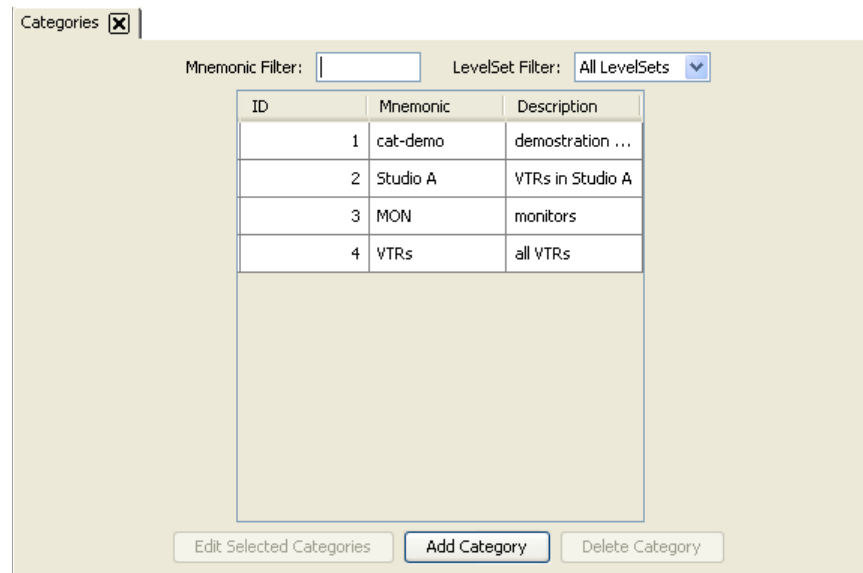

Figure 10-25. Categories Page
- 2 From the Navigation area, select the 'Configuration' pane and then 'Categories'. The 'Categories' page appears, as shown in Figure 10-25.